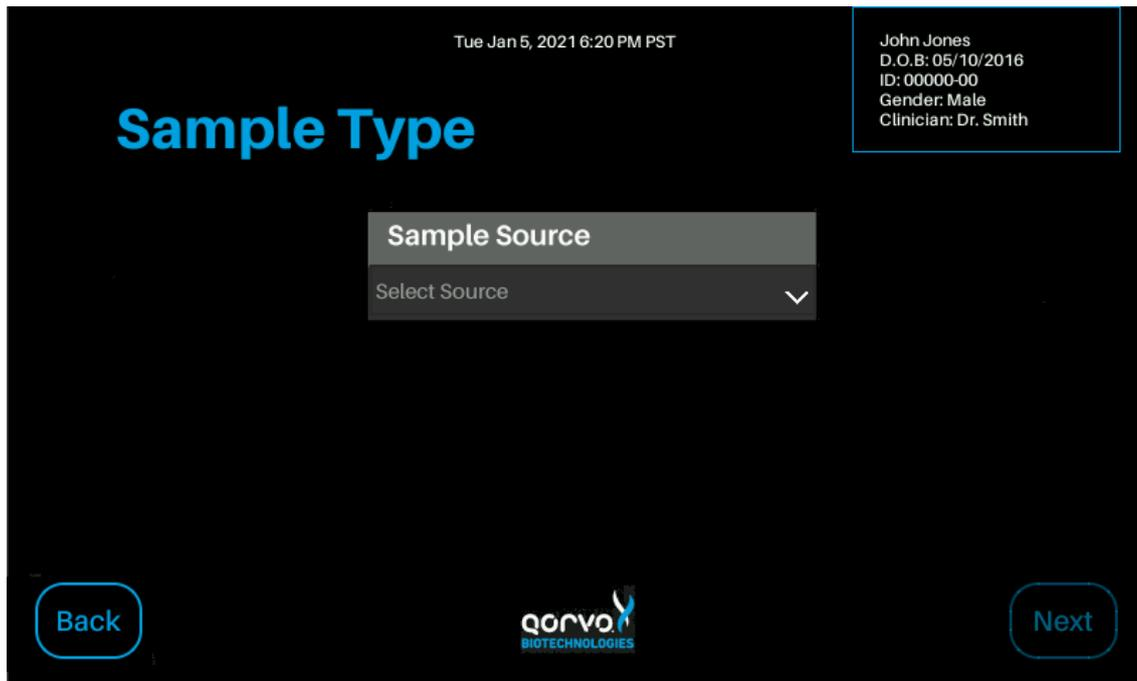

Figure 28
- Once the cartridge is read and identified, the user may be required to select the sample type as shown in Figure 28. Press "Select Source" or the down arrow to select the sample type from the pull-down display for the assay. For assays with one sample type this screen will not display?